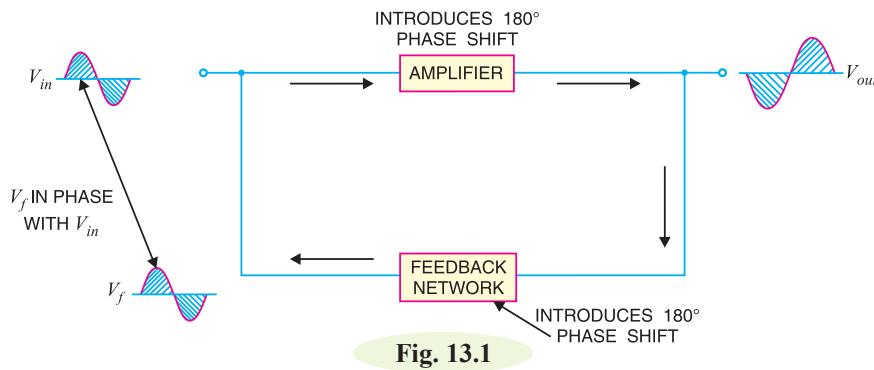

Fig. 13.1
**(i) Positive feedback.** When the feedback energy (voltage or current) is in phase with the input signal and thus aids it, it is called *positive feedback*. This is illustrated in Fig. 13.1. Both amplifier and feedback network introduce a phase shift of  $180^\circ$ . The result is a  $360^\circ$  phase shift around the loop, causing the *feedback voltage*  $V_f$  to be in phase with the input signal  $V_{in}$ .